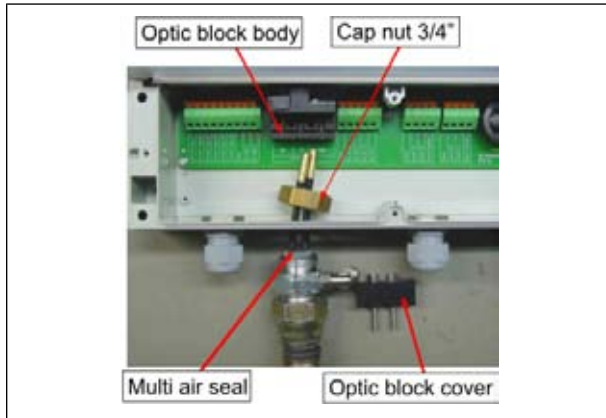

Fig. 2.8. Connecting cables to optical unit.
5. Open the optics block cover, slide the cables through the bushing hole, cap nut and tighten the bushing loosely, fig. 2.8.